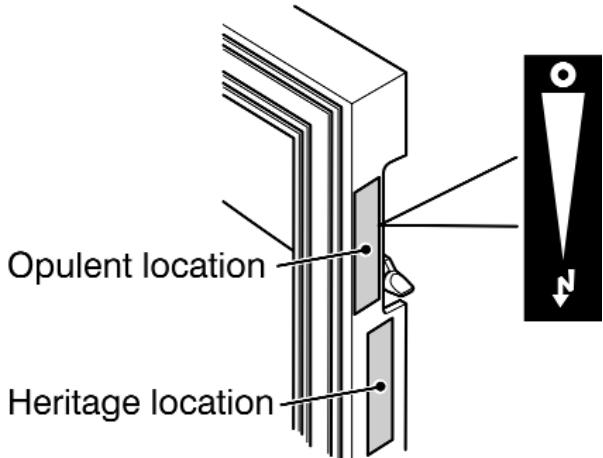

Figure 29. Control position label
Step 5. Supplied with the fire is a self adhesive control position label. Peel the backing from the label and position as in figure 29.
3. Supplied with the fire is a self adhesive control position label. Peel the backing from the label and position as in figure 29.